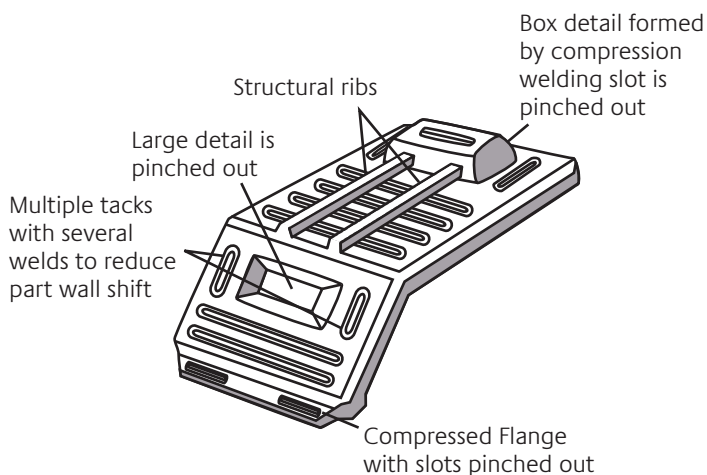

Figure 10
3. Develop compression tacking details or patterns (figure 10). Sidewalls are forced together by the closing action of the mold to form a single wall. This creates local areas with locally thick walls. It also develops localized beam sections more resistant to bending, tension and torsion. Beware of “read-through” from compression; avoid tacking in appearance areas.